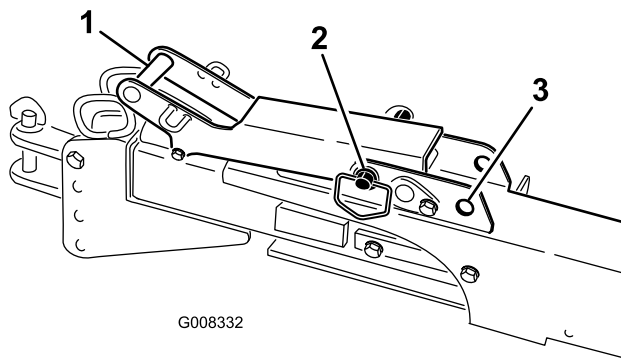

Figure 35
- If using the tow hitch, reposition the core processor behind the vehicle, retract the tow hitch and move the latch handle pin to the locked position (Figure 35).